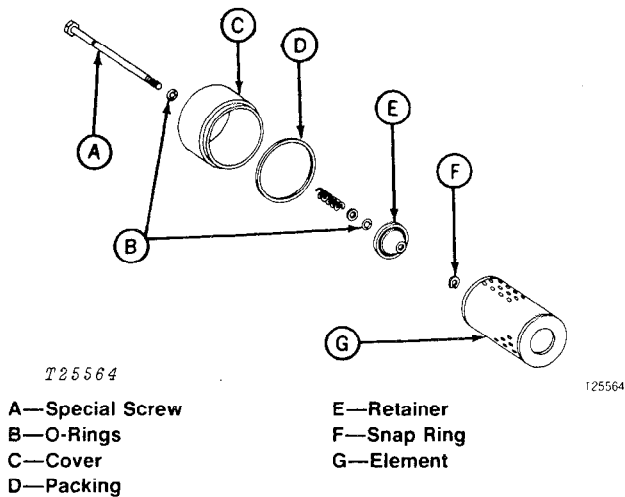

Fig. 9-Transmission Filter Assembly
- 1 - Remove cover (C, Fig. 9).
- 2 - Remove packing (D) and element (G).
- 5 - Tighten special screw (A) to 35 lb-ft (5 kg-m).